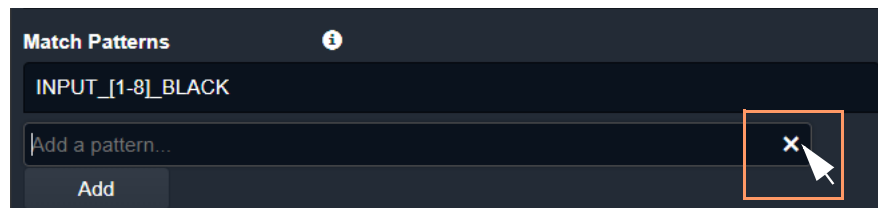

Figure 62: Clear Match Pattern Entry Text Box
- 1 Clear the text entry box by clicking on the **x** that appears when the cursor hovers over the right-hand end of the text box. (See Figure 62.)